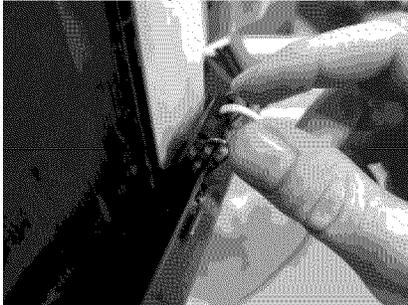
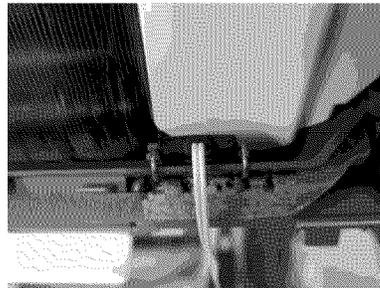

Fig 8
Fig 9
10. Rotate the panel clips on the Water Sensor so that the clips are towards the front of the indoor unit and slide onto the front edge of the drain pan (Fig 8). Push the panel clips all the way down onto the plastic drain pan then push the Water Sensor down until it stops on, or close to, the bottom of the drain trough (Fig 9)*.